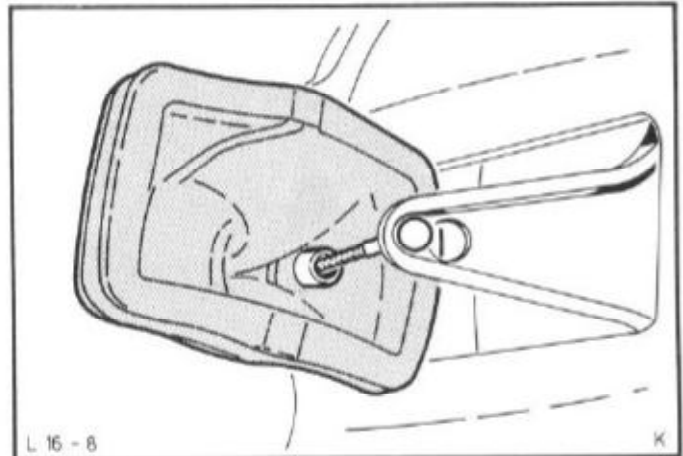

Fig.163. Unhook clutch cable from release lever.
2. Place a block under the clutch pedal to detach the pawl from the toothed segment. Withdraw the gaiter on the clutch release lever. Unhook the cable from the release lever by pulling the cable in front of the lever downwards by hand, holding it with pliers and then unhooking the end, Fig.163. Pull the gaiter off the cable.